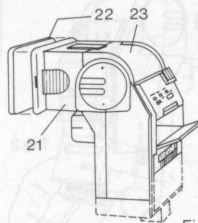

Fig. 8
1. Push the lid catch (14) upwards to release the battery lid (20), as in Figure 8. Note.